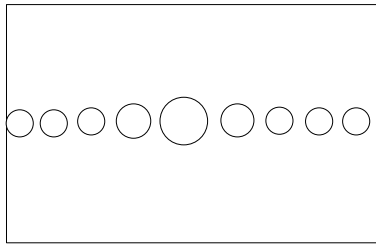

FIG. 1
- Horizontal curtain lens (Fig. 1)
To replace the lenses you must remove the funnel and remove the lens that is resting in the housing as shown in figure 1 and 2.
**Screw for Anti-removal system - Fig.1**
Once the cable and wall attachment holes have been made, take the measurement to attach an anchor (3 mm) to the anti-removal system. (see above fig.1 and fig.2)
You can use the hub included in the package for attaching it to the wall. The back of the cover is ready for attachment of the hub and for the passage of the cables inside it. You can see how it should be used in the figure. In case of use of the hub, for the closure of the anti-removal tamper mount the specific screw, in the seat shown in Fig. 1.